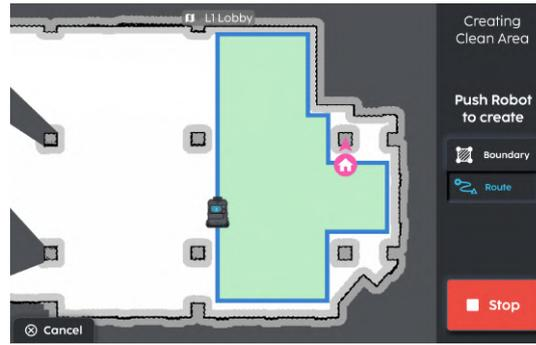

FIGURE 4-18
15. While creating the cleaning area, switching between boundary and route is allowed (**Fig. 4-18**).
16. When satisfied, press "Stop" (**Fig. 4-18**).